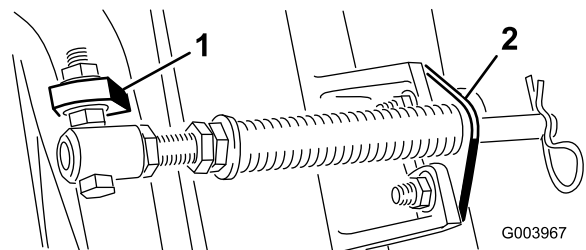
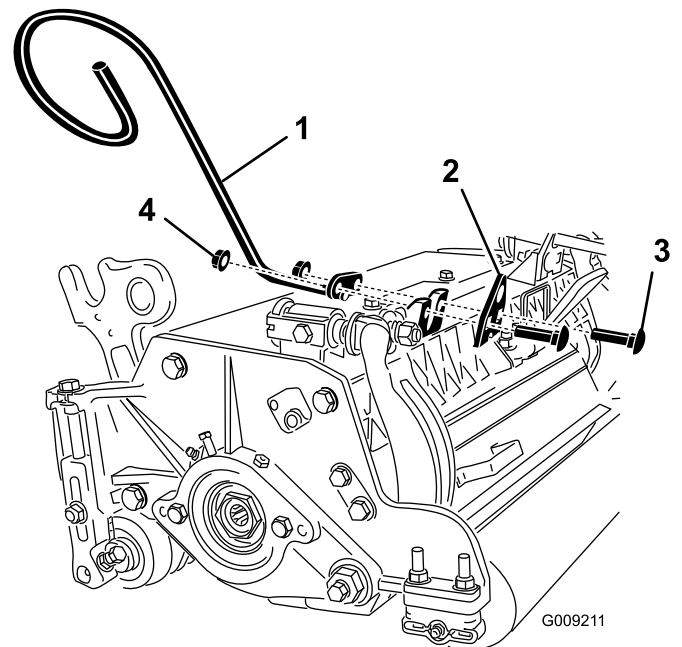

Figure 6
Figure 8
C. Mount the spring tube bolt to the opposite tab on the carrier frame and secure with the flange nut. The bolt head is to be positioned to the outer side of the tab as shown in Figure 6.
- D. Mount the rod bracket to the cutting unit tabs with the carriage bolts and nuts (Figure 6). Also, on the #4 (left front) cutting unit, mount the left hand hose guide to the front of the cutting unit tabs when reinstalling the rod bracket (Figure 8).